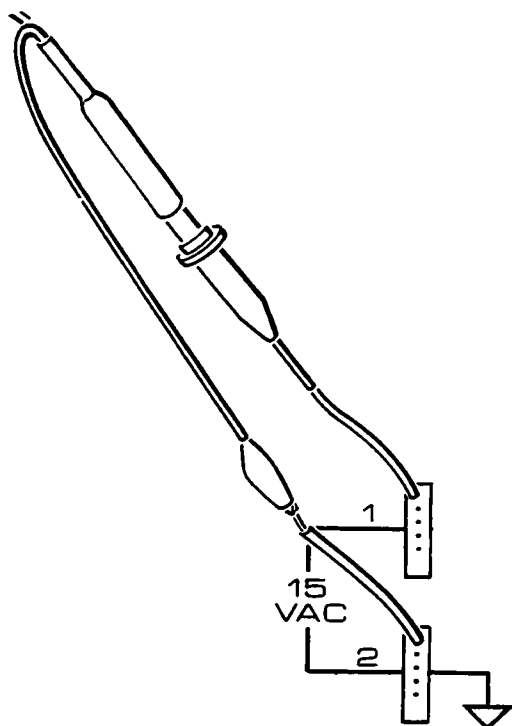

Figure 2-35
16. On the Trainer, use a short jumper wire to connect the probe tip to either Pin 1 or Pin 3 of the Line Frequency output. Connect the ground clip from the probe to the center tap ground, Pin 2, of the Line frequency output. The connection is shown in Figure 2-35.